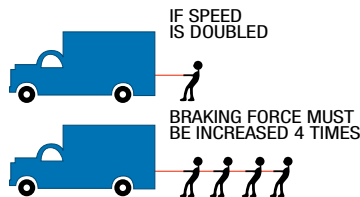
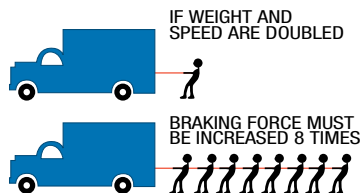

Figure 2
Figure 3
4. **Speed.** The greater the speed, the more time and distance are needed to stop. Figure 2 illustrates that doubling the vehicle speed means that four times the braking force is required to bring the vehicle to a stop. Figure 3 illustrates that if both the speed and weight are doubled, the amount of force required to stop the vehicle will be increased by eight times.